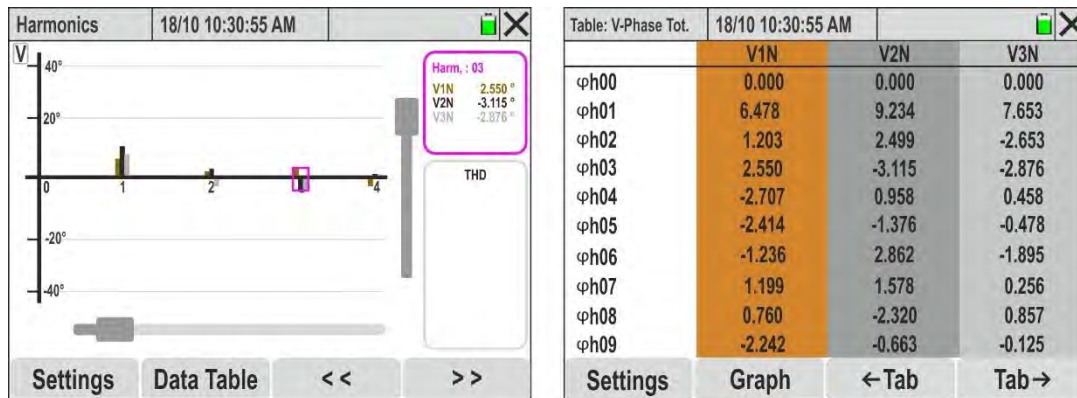

Fig. 58: Phase angle harmonic analysis for voltage signals
17. **When the 4 voltages or 4 currents are selected**, the bar graphs of the phase angles with respect to the origin of the quantities V1N, V2N, V3N, VNPE or I1, I2, I3, IN are shown in Fig. 58 – left part
19. Touch the "Data Table" key to switch from the numeric display. The screen in Fig. 58 – right side is shown on the display. The parameters "phi0xx" indicate the amplitude of the harmonic xx, for each selected channel